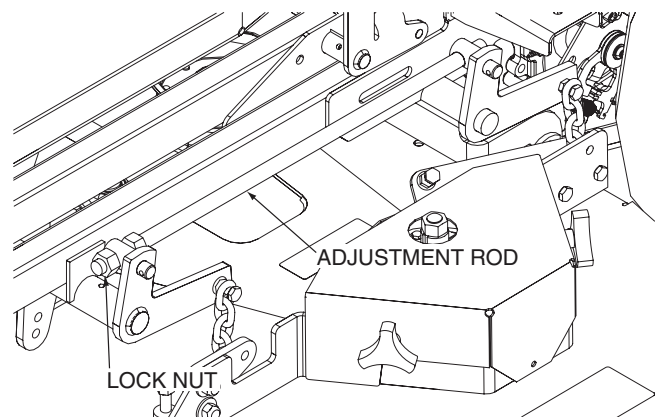

Figure 6-6. Cutter Deck Level Adjustment
1. Loosen the jam nut on both adjusting rods. See Figure 6-6.